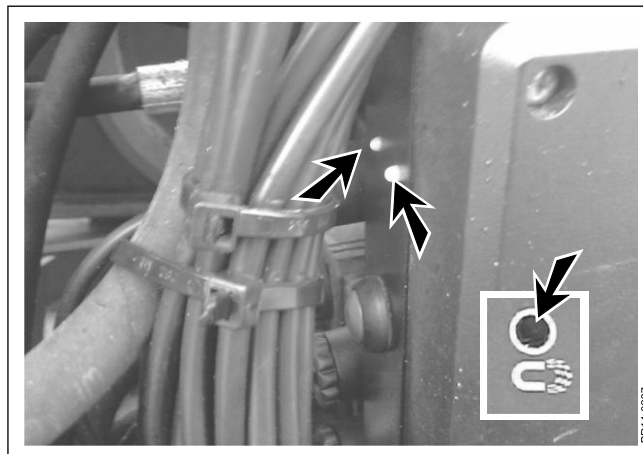

Fig. 5-6
- Fig. 5-6** When the control unit is switched on and the metal detector is on, the two control lights on the MD control unit and the light on the control box will be illuminated.